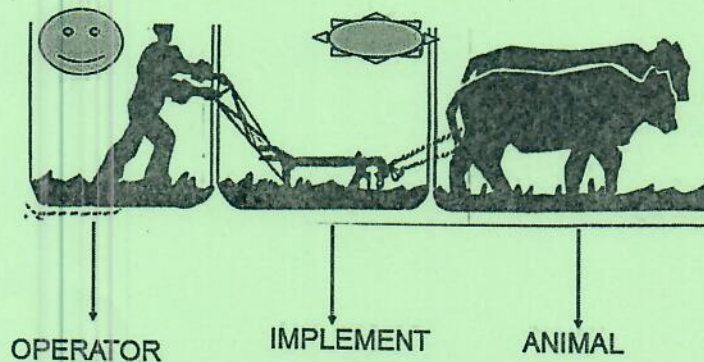

Figure 1 Human control of animal-implement interaction
- c) Figure 1 shows an interaction between the human being, the implement and the animal during tillage.